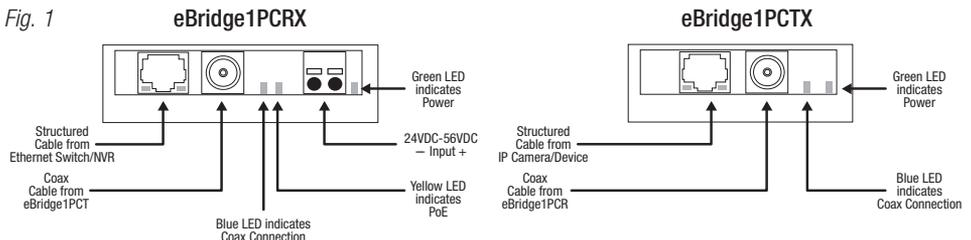

Fig. 2
- c. Connect structured cable from ethernet switch/NVR (network video server) to RJ45 jack marked [10/100BaseT] (Fig. 2, pg. 3).
- d. Connect Coax cable to BNC connector marked [Coax] (Fig. 2, pg. 3).
- b. Connect structured cable from IP camera/device to RJ45 jack marked [10/100BaseT] (Fig. 2, pg. 3).
- c. Connect Coax cable to BNC connector marked [Coax] (Fig. 2, pg. 3).